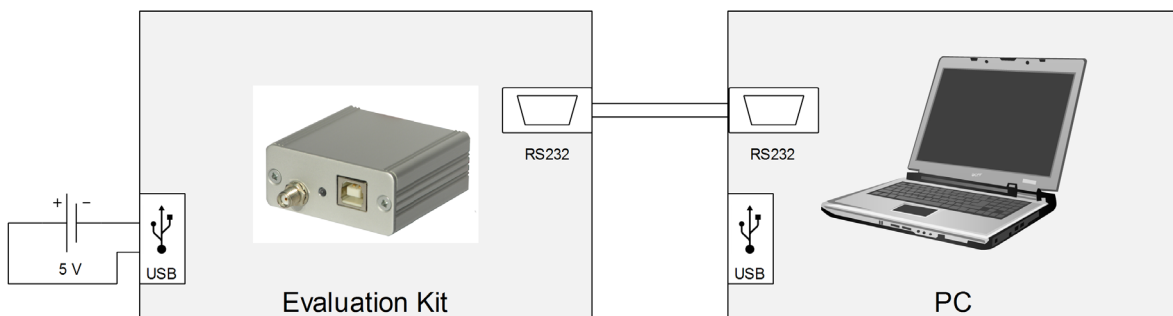

Figure 6: Connecting EVK for supply and communications when testing Power Save Mode
- The evaluation kit may only be supplied over the USB connector. This can be done by either connecting a USB cable from the evaluation kit to a supplied USB hub, or by using a USB power connector (see Figure 6). Do not connect the USB cable to the PC!